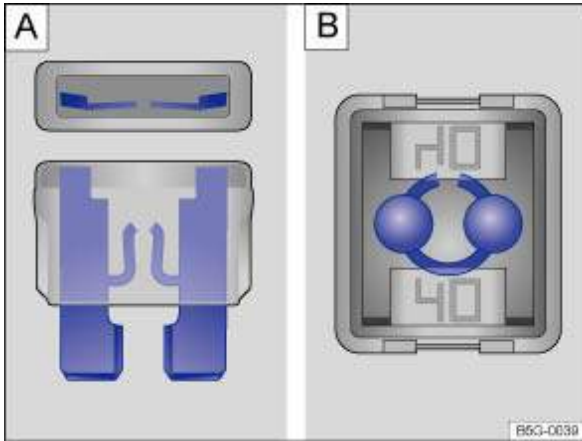

Fig. 207 Blown fuse: A: flat blade fuse, B: JCASE® fuse
- A blown *flat blade fuse* (ATO®, MINI®) can be recognised from the top and side through the transparent housing surrounding the melted metal strips → Fig. 207 A.
- If a *JCASE® fuse* is blown, this can be recognised from the top through the transparent housing → Fig. 207 B.